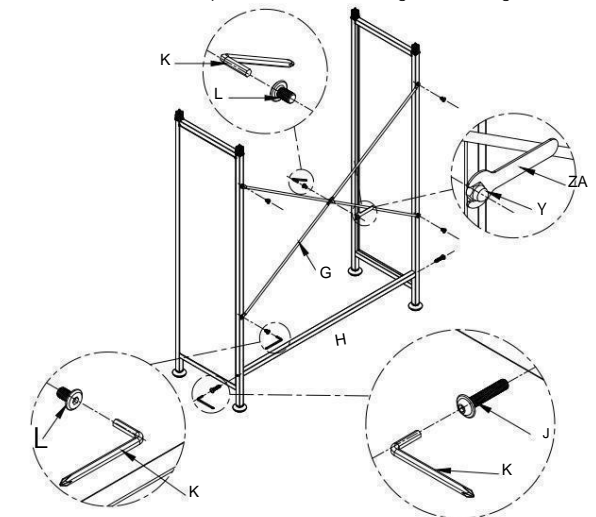

Figure 2
2.2. Use J to fix the connecting pipe to A1 and A2, and then install the traceless sticker (ZB) as shown in Figure 2.